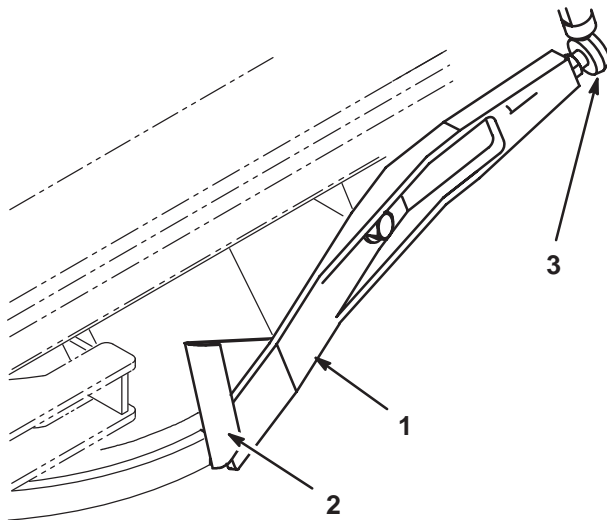

Figure 68
On each side of the center deck is a safety door that opens and closes as the wing decks are lowered and raised (Fig. 68). The doors open to provide overlap of the cutting blades when the wing units are down. The doors close to provide safety and protection when the wing units are raised. Check to make sure the forward, lower edge of door (Fig. 68) is even or 1/4 in. (6 mm) higher than lower edge of door guide when wing decks are in the fully raised, transport position. If an adjustment to the door is required, proceed as follows:
1. Loosen jam nuts securing ball joints to threaded rod (Fig. 68).